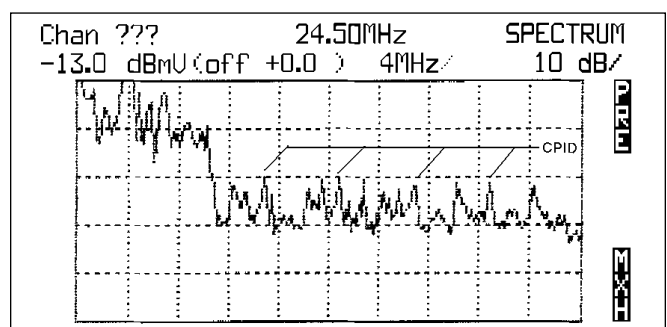

Figure 5. CPID.
- **Common-Path Intermodulation Distortion (CPID/CPIM)** is second- or third-order distortion products from downstream signals caused by impedance changes and non-linear elements in portions of the plant where both upstream and downstream signals are present. These impedance changes cause a portion of the forward energy to be reflected back down the line where the lower frequency components are passed through the diplex filter and amplified by the return amplifier. CPID appears as spurious signals spaced at the visual carrier intervals of the system (see Figure 5).